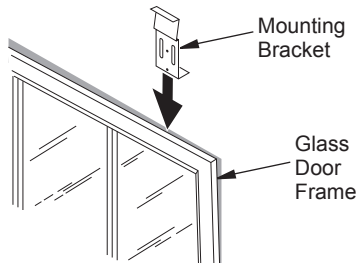
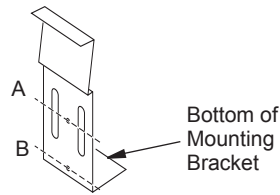
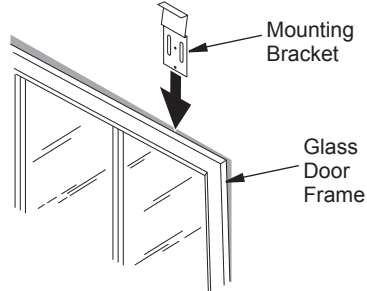

Figure 5 - Placement of Mounting Bracket
Figure 6 - Mounting Bracket
Figure 7 - Mounting Bracket Placement For Tall Frame
- Loosen clamps that hold glass door frame to fireplace. Slide the mounting brackets behind the glass door frame (see Figure 5). Place brackets near ends of horizontal glass door frame. **Note:** If frame is too tall, the bottom of mounting bracket will not slide under lintel (top) of fireplace. If so, cut mounting bracket off at point "B" (see Figure 6). Slide mounting bracket into glass door frame (see Figure 7).
1. Cut mounting bracket off at point "A" (see Figure 6, page 2).